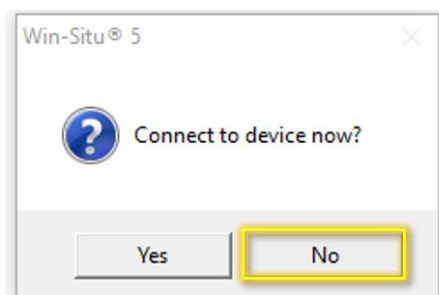

Figure 5. Connect to Device Pop-up Window
4. The pop-up window most users will experience is one asking if you would like to **"Connect to device now?"** pop-up window. Select **"No"** (Figure 5).